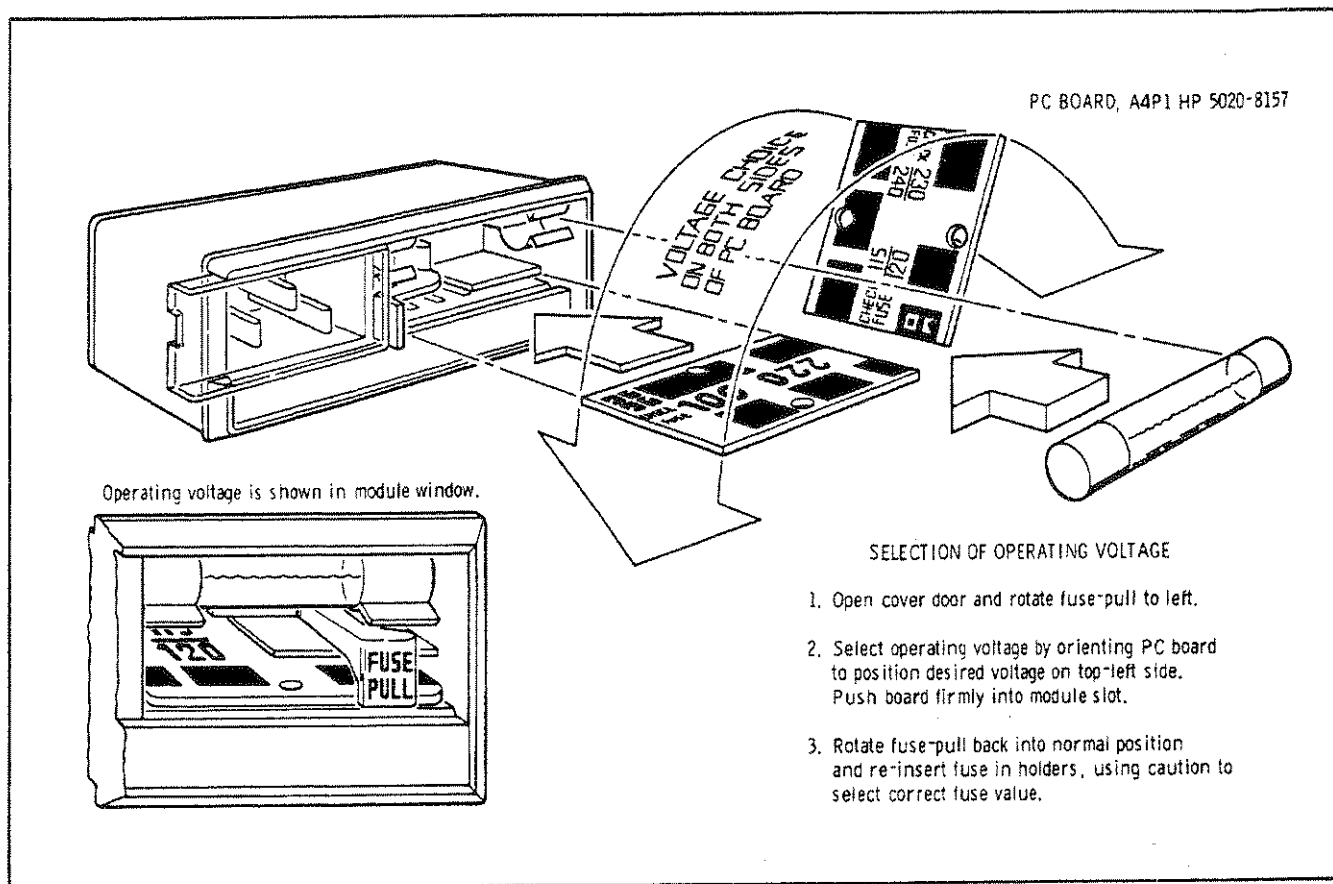

Figure 3. Line Voltage Selection
19. Figure 3 provides instruction for line voltage and fuse selection. The Line Voltage Selection Card and fuse are factory installed for 120 Vac operation.
36. Maintenance by the operator consists of changing the fuse (refer to Figure 3), and LINE switch lamp replacement (refer to Figure 5).
- 9** **Line Voltage Selection Card.** Matches transformer primary to line voltage. Refer to Figure 3.
- a. Verify that the power transformer primary of the 11683A is matched to the line voltage. See Figure 3.
- b. Check the fuse, contained in the Power Module Assembly, for the correct rating. The voltage and amperage are shown on the rear panel. If necessary, change the fuse. See Figure 3.